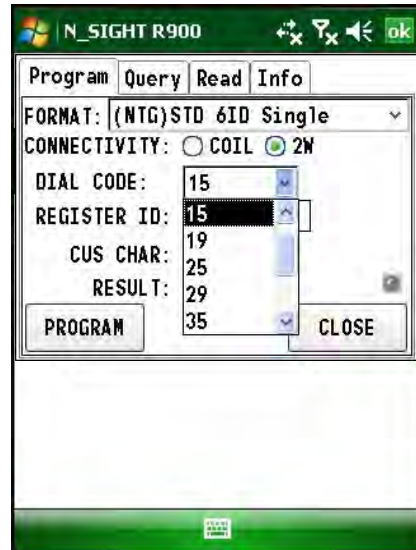

Figure 8.10 Otr Selection List
- **otr** – to choose another value from a selection list. See Figure 8.10. (To return to the screen from this list, select **None**.)